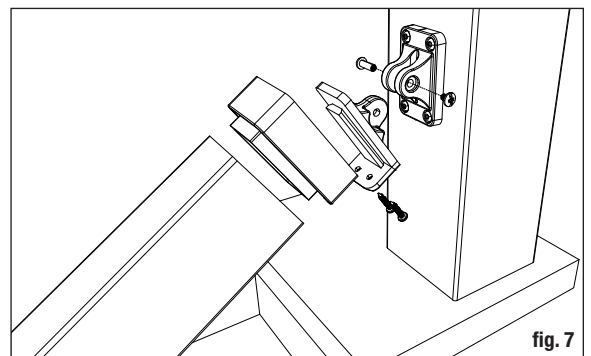

fig. 7
**Step 6** Disassemble stair bracket hinge and attach L-bracket and bracket cap to rails. Place hinge plate on the post with the previously marked line. Center and mark the screw locations. Pre-drill through the post sleeve only using a 1/4" drill bit. Attach each hinge plate to the post with four 1-3/4" long screws (refer to fig. 7).
**Step 8** Position the bottom rail between the posts and attach hinge plate to the assembled stair rail bracket using the mating bolts (refer to fig. 7).